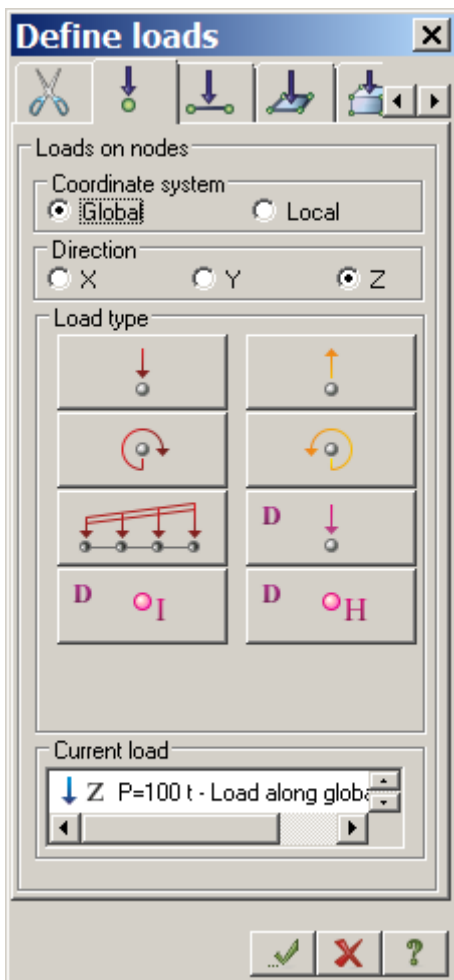

Figure 9.24 Define loads dialog box
- ⇒ In the **Define loads** dialog box (see Fig.9.24), specify **Global** coordinate system and direction along the **Z**-axis (default parameters).